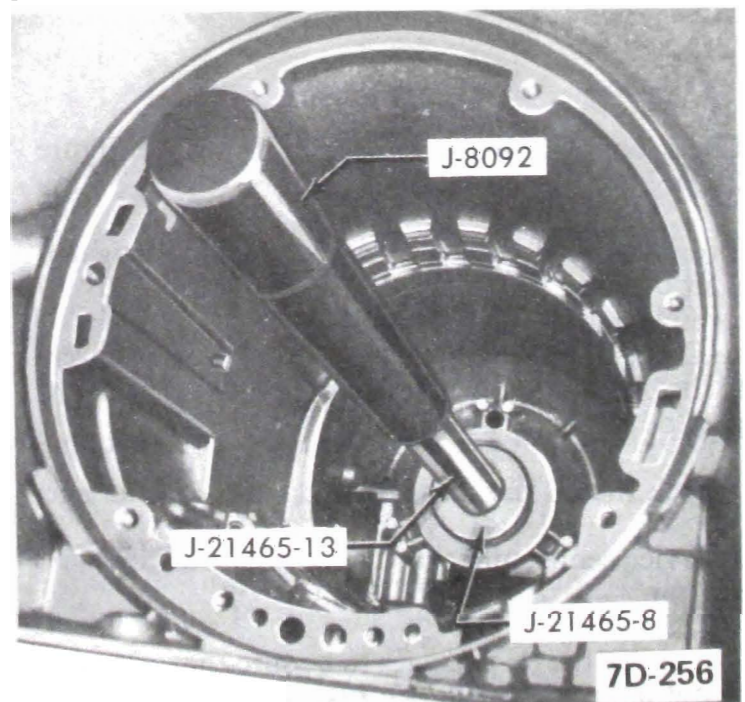

Figure 7D-256
a. Thread Extension Handle J-21465-13 into Bushing Remover J-21465-8. Using Drive Handle J-8092 remove bushing. See Figure 7D-256.